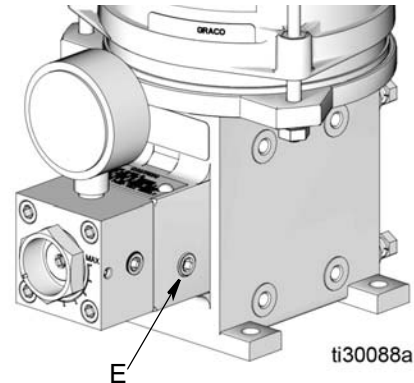

FIG. 6: Drain Plug
- Filling the grease reservoir requires an external, air-free supply source connected to the fill stud (13).
1. Remove the fill cap (12)
2. Connect the grease supply source to the fill stud (13).
3. Loosen the drain plug (E), located on the opposite side of the base from the fill stud (13) (FIG. 6).